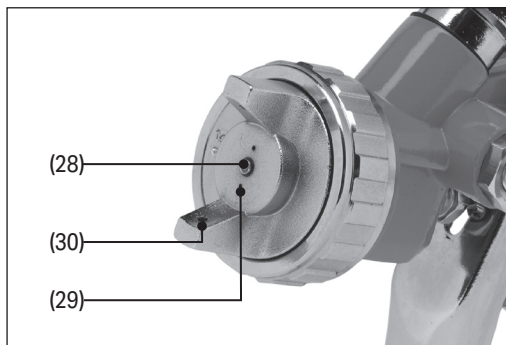

Fig. 8
The air cap (1) has three types of opening that affect the pattern of the fluid spray (Fig. 8):
- A hole for the nozzle head from which the fluid is dispersed (28).
- Atomising air holes (29) that break the fluid into a fine spray.
- Air horn holes (30) that shape the spray pattern as required.